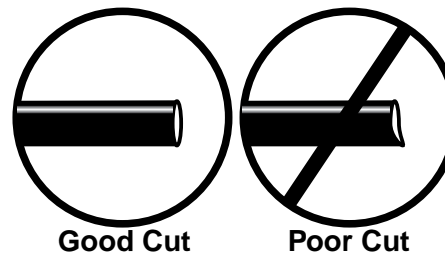

fig. 10
WHEN CUTTING OR TRIMMING THE AIR LINE, USE A HOSE CUTTER, A RAZOR BLADE, OR A SHARP KNIFE. A CLEAN, SQUARE CUT WILL ENSURE AGAINST LEAKS. DO NOT USE WIRE CUTTERS OR SCISSORS TO CUT THE AIR LINE. THESE TOOLS MAY FLATTEN OR CRIMP THE AIR LINE CAUSING IT TO LEAK AROUND THE O-RING SEAL INSIDE THE ELBOW FITTING (FIG. 10).
- a. Check the air line connection by deflating the spring and removing the line by pulling the collar against the fitting and pulling firmly on the air line. Trim 1" off the end of the air line. Be sure the cut is clean and square (see fig. 10). Reinsert the air line into the push-to-connect fitting.